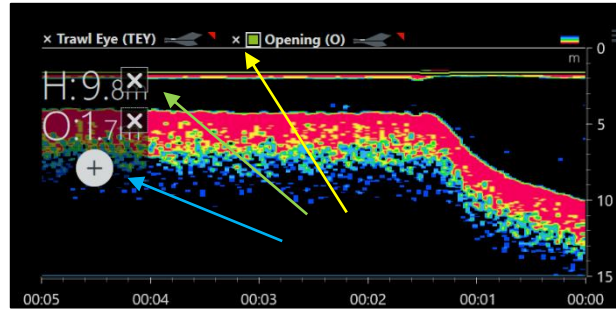

Figure 54 – Yellow: Remove overlay
**Note:** To remove an overlay, click the "X" in the top of the segment, see *Figure 54*.
By default, the segment for *TrawlEye* ecogram displays Height, Opening and Clearance on the left-hand side. They can be removed or added back as shown in *Figure 54*.